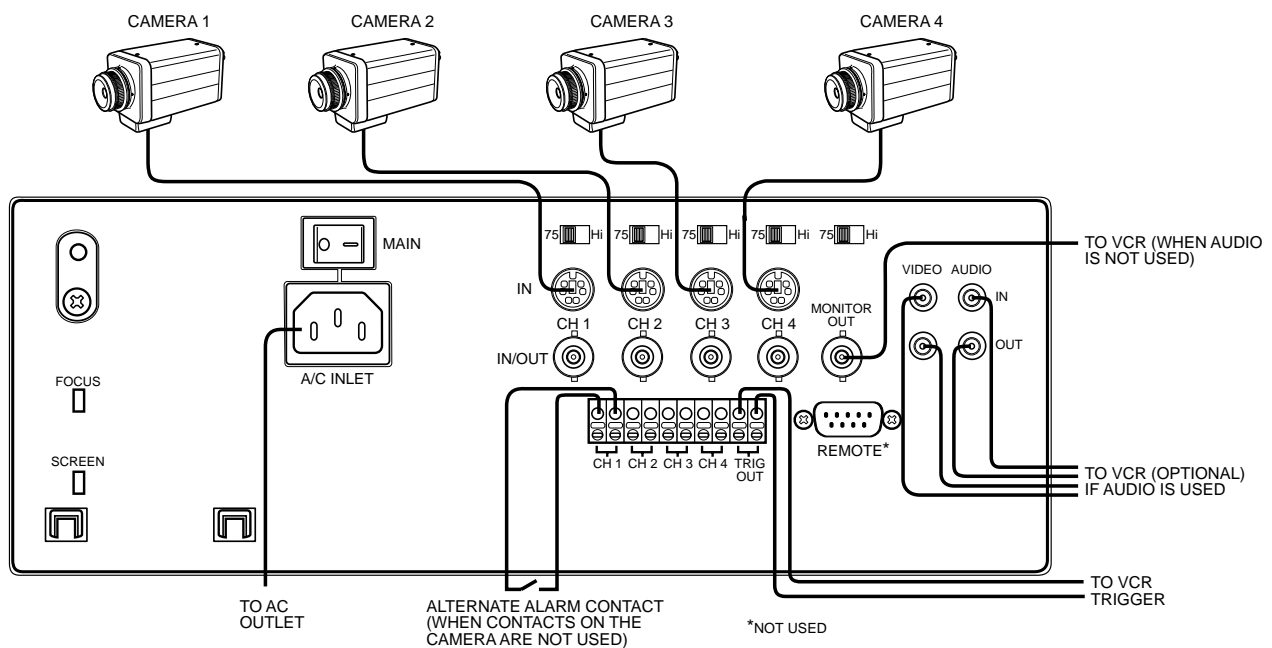

Figure 1. Connections at the Back of the Monitor
5. Connect cable to one of the CH IN jacks on the back of the monitor (refer to Figure 1).
6. Set impedance switch to the 75-ohm position, unless another video device is connected to the IN/OUT jacks (refer to Figure 1).
7. Connect AC power to monitor (refer to Figure 1).
8. Turn on MAIN switch on the back of the monitor (refer to Figure 1). Then press the POWER button on the front of the monitor.